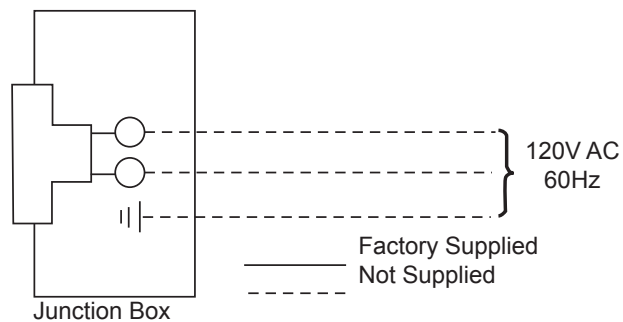

Figure 22. Junction Box Wiring Diagram
3. The junction box cover has a factory installed "romex" style strain relief connector. After connecting the wires, route the wire leads through this connector. Refer to the wiring diagram in Figure 22.